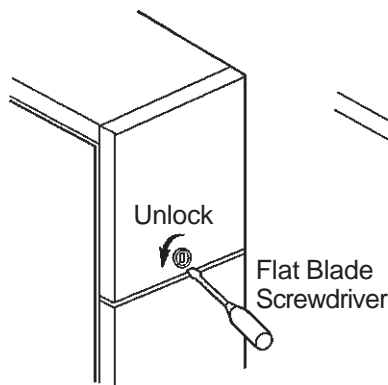

Fig. 5
- 3) Unlock the Front Panel (Upper) by turning the Hook counterclockwise with a flat blade screwdriver. Lift off the Front Panel (Upper). See Fig. 5.